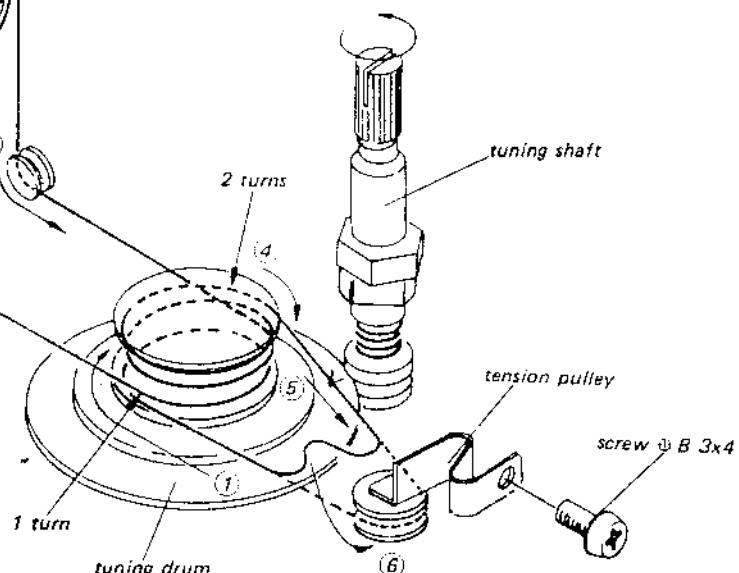

Fig. 2-22 Tuning dial cord restringing
- Turn the dial pulley so that the area midway between "kHz" and "-150" on the dial scale is aligned with the cut portion of the dial frame as shown in Fig. 2-22.
- String the dial cord as shown in Fig. 2-22. Perform the stringing steps in the numerical order indicated.